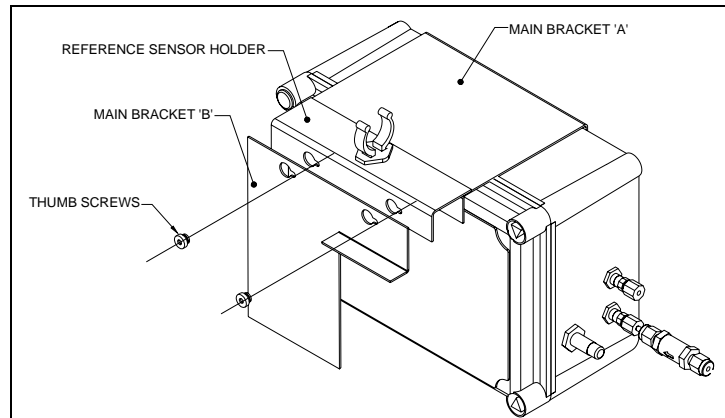

Figure 8
1. Refer to Figure 8. Install Main Bracket A on top of the 5000TOCe Sensor.